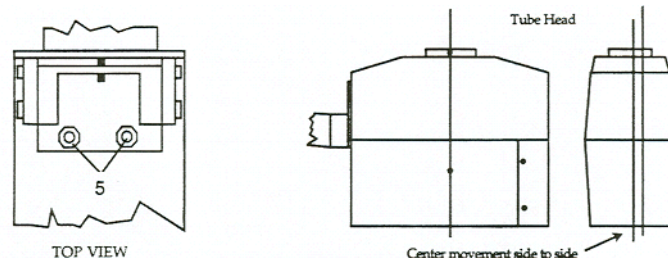

Fig. 13 Side-to-Side Adjustment of the Tube Head
- Side-to-side adjustment of the tube head is controlled through two bolts identified in Fig. 13 as item 5.